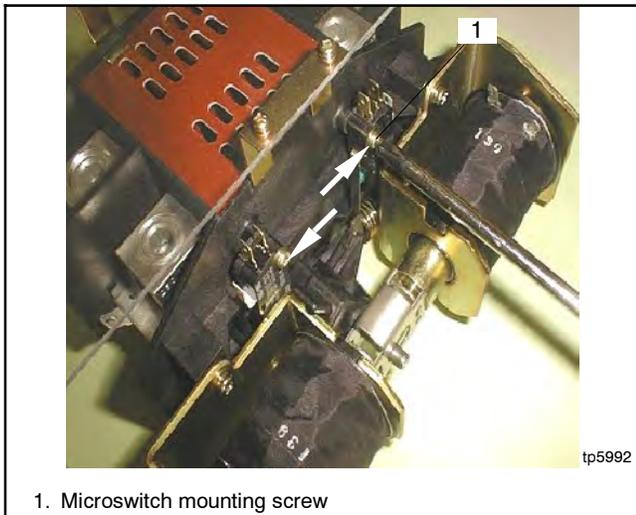

Figure 7-17 Install new Microswitch, 200 A Models
1. Remove the microswitch mounting screw and microswitch. See Figure 7-17.
2. Install the new microswitch. Push the microswitch mounting screw in the direction of the arrow shown in Figure 7-17 and tighten it to 0.44 Nm (4 in. lb.).